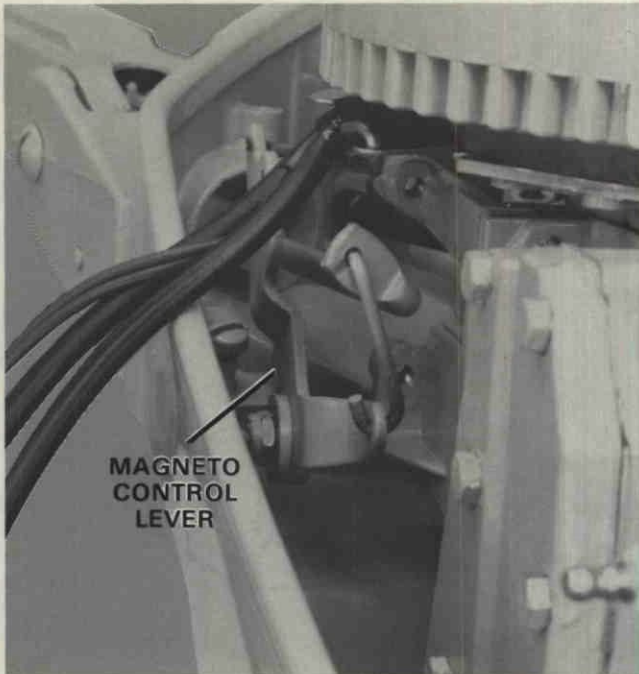

Figure 8. Magneto Control System.
6. Disconnect magneto control lever. Figure 8.
C. Resurface cylinder head, if it is only slightly warped: lay a sheet of No. 120 emery cloth on the glass and slide head around in a figure 8 motion, exerting light and even pressure. Examine gasket surface area: high spots will be dull, low spots